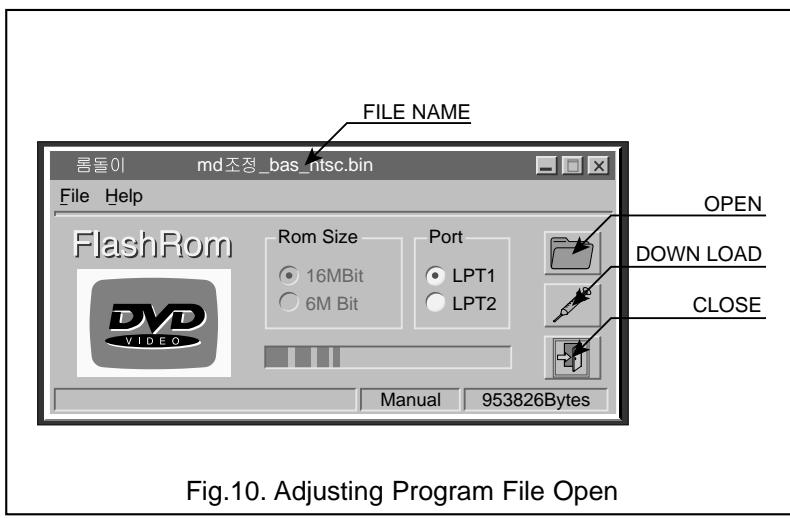

Fig.10. Adjusting Program File Open
9. Open the Program File for Adjusting(Fig.10)